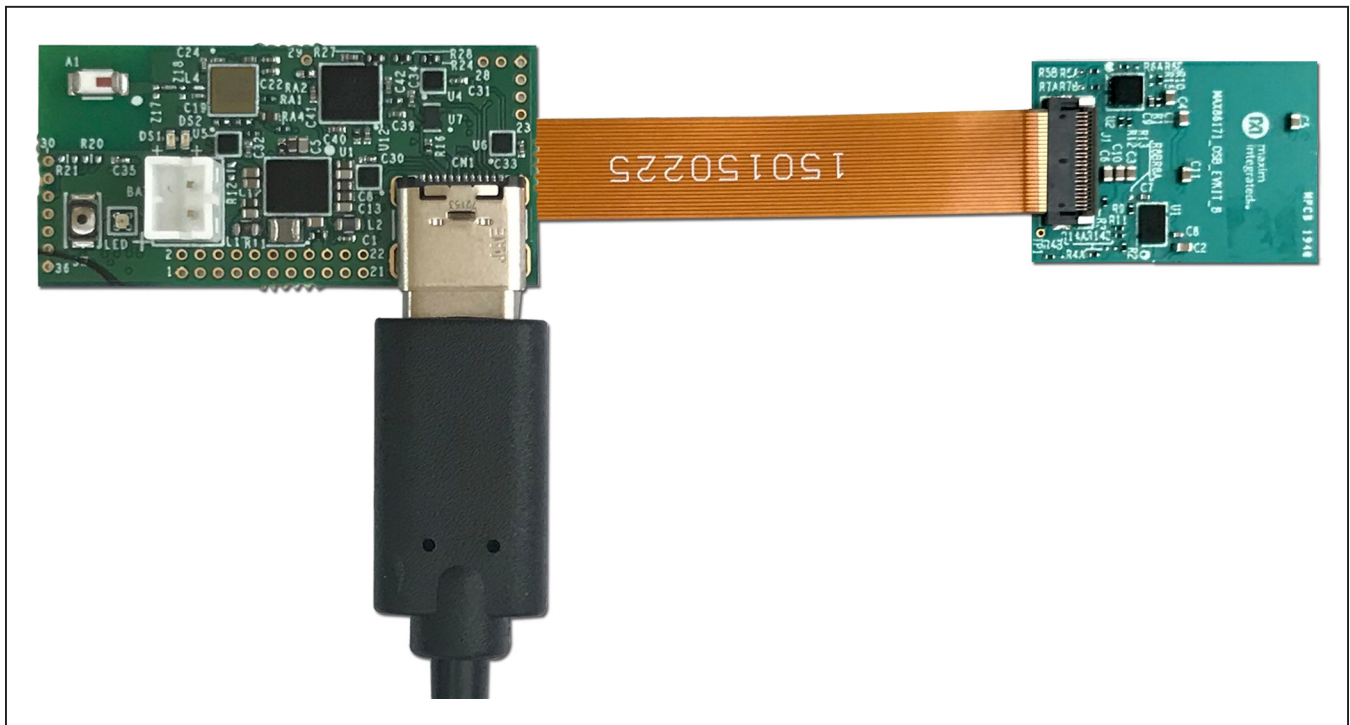
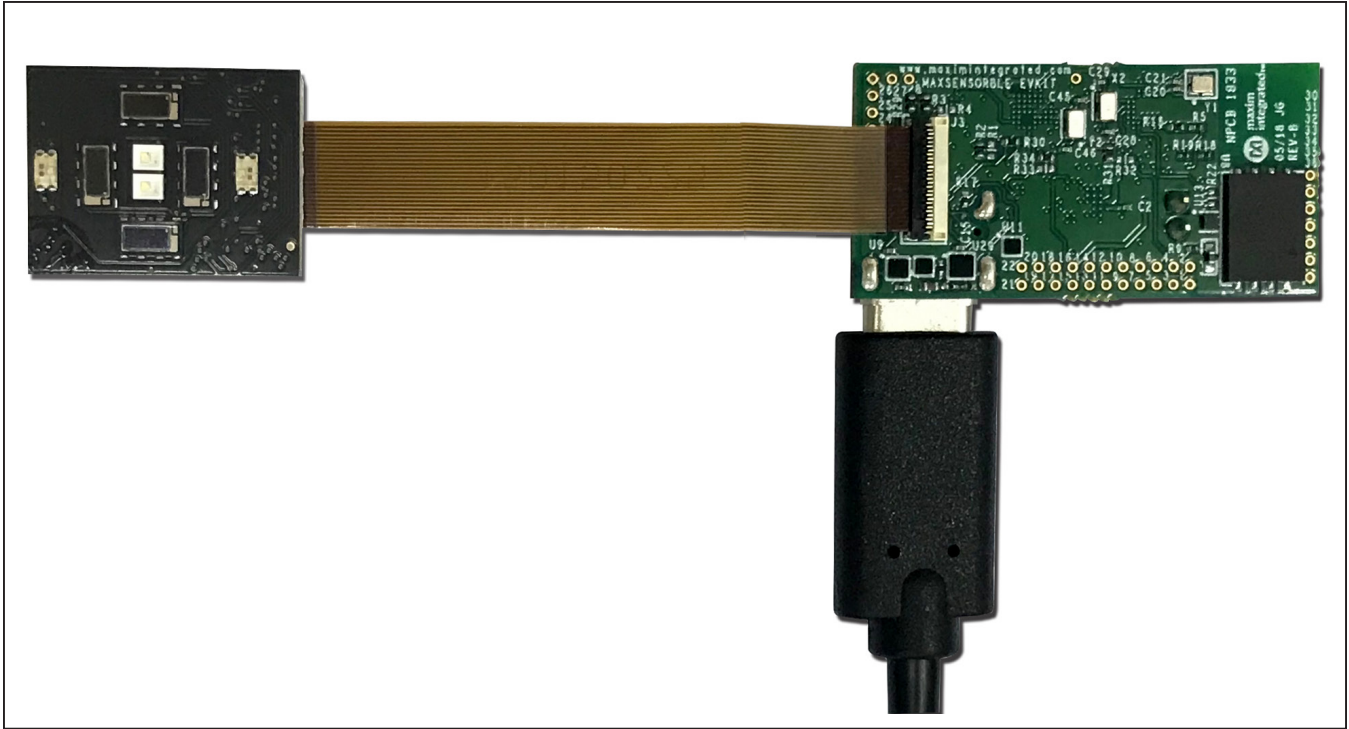
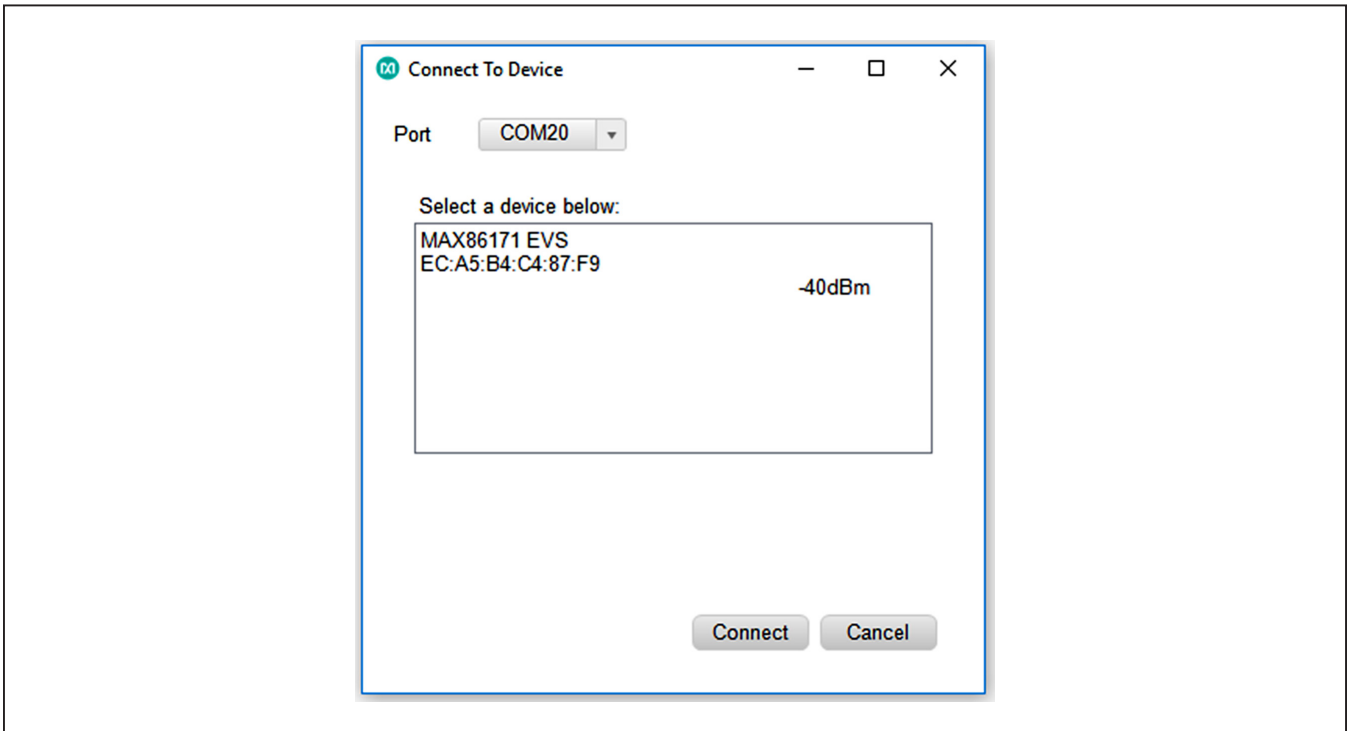

Figure 9. Hardware Setup (MAX86171 EV Sys Micro-PCB)
Figure 10. Hardware Setup (MAX86171 EV Sys Sensor PCB)
Figure 11. Connect to BLE Device
- 5) If the MAX86171 EV sys flex cable is not already connecting the Data Acquisition EV sys Micro PCB to the MAX86171 Sensor PCB, then please connect the two PCBs with the cable as shown in Figure 9 and Figure 10.
- 6) Connect USB-C cable or LiPo Battery to the Data Acquisition Board to power up the EV sys. If LiPo battery is used, press the power switch (SW) to turn on/off the device. When powered on, the green LED will toggle.
- 7) After that, start the MAX86171 EV sys GUI program. "Connect Device" will appear, choose your device and press "Connect" as shown in Figure 11.